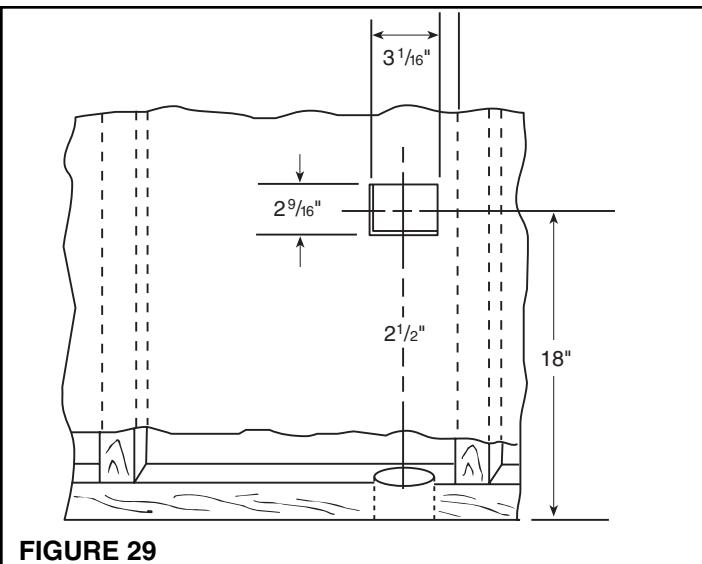

FIGURE 29
1. See Figure 29. A small 'pilot' or 'locating' hole can be drilled behind baseboard toe strip to determine proper location of $2\frac{1}{2}$ " diameter tubing hole in sole plate.
5. If area is clear, cut an inlet opening in the wall approximately 18" above the floor. Make sure wall opening and $2\frac{1}{2}$ " tube hole line up (Figure 29).